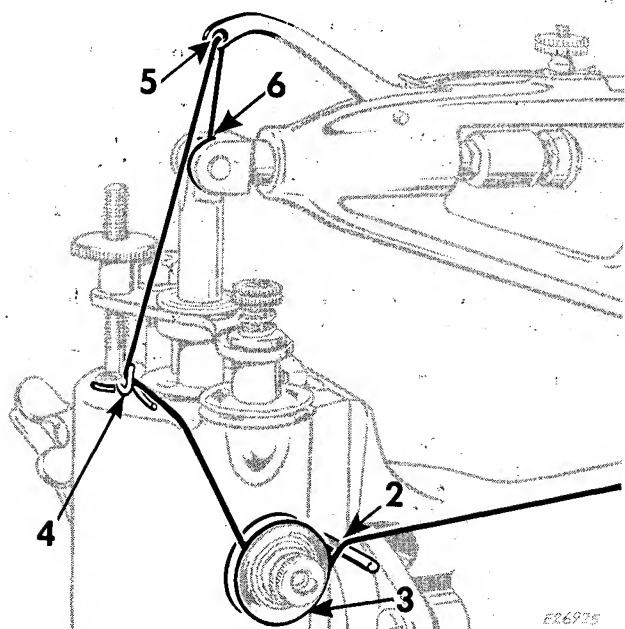

Fig. 21. Upper Threading for Darning
3. Pass thread over the pin 2 near the tension discs in front of the arm and from right to left under and between the tension discs 3, Fig. 21.